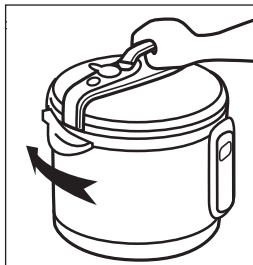
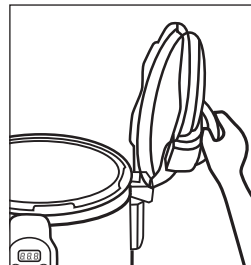

Figure 1
Figure 3
1. Open the Lid (2).
Hold the Handle (1) firmly, turn it clockwise to the clamping position and then lift it (see the figures 1, 2). The Lid (2) can stand on the Support (13), see the figure 3.